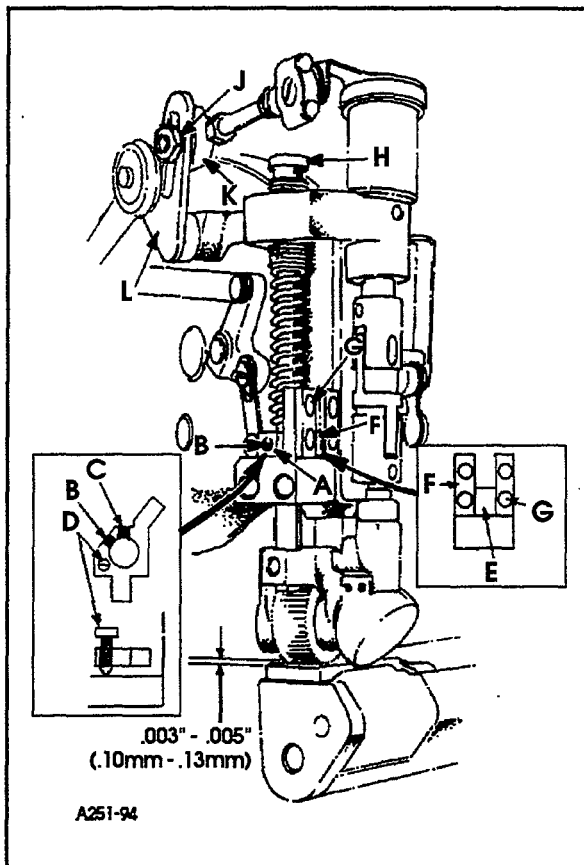

FIG. 16
When upper feed roller mechanism has been removed or replaced, .003" (0.10mm) minimum to .005" (0.13mm) maximum clearance should be maintained between roller and throat plate. With presser bar connection (A, Fig. 16) properly positioned and secured on roller presser bar with spot screw (B) and set screw (C), turn screw (D) clockwise until a .003" (0.10mm) to .005" (0.13mm) shim can be inserted between roller and throat plate. Remove shim.
Regulate the pressure on the feed roller so that it exerts only enough pressure on the fabric to feed the work uniformly. Turning roller presser spring regulator (H, Fig. 16) clockwise to increase or counterclockwise to decrease the pressure.
After feed dog has been set to proper stitch length, roller should be set to maintain the same. To adjust the amount of travel of the roller, loosen nut (J, Fig. 16) move ball joint assembly (K) up in clutch driving segment lever (L) to acquire more feed action, moving down acts the reverse. Retighten nut (J).